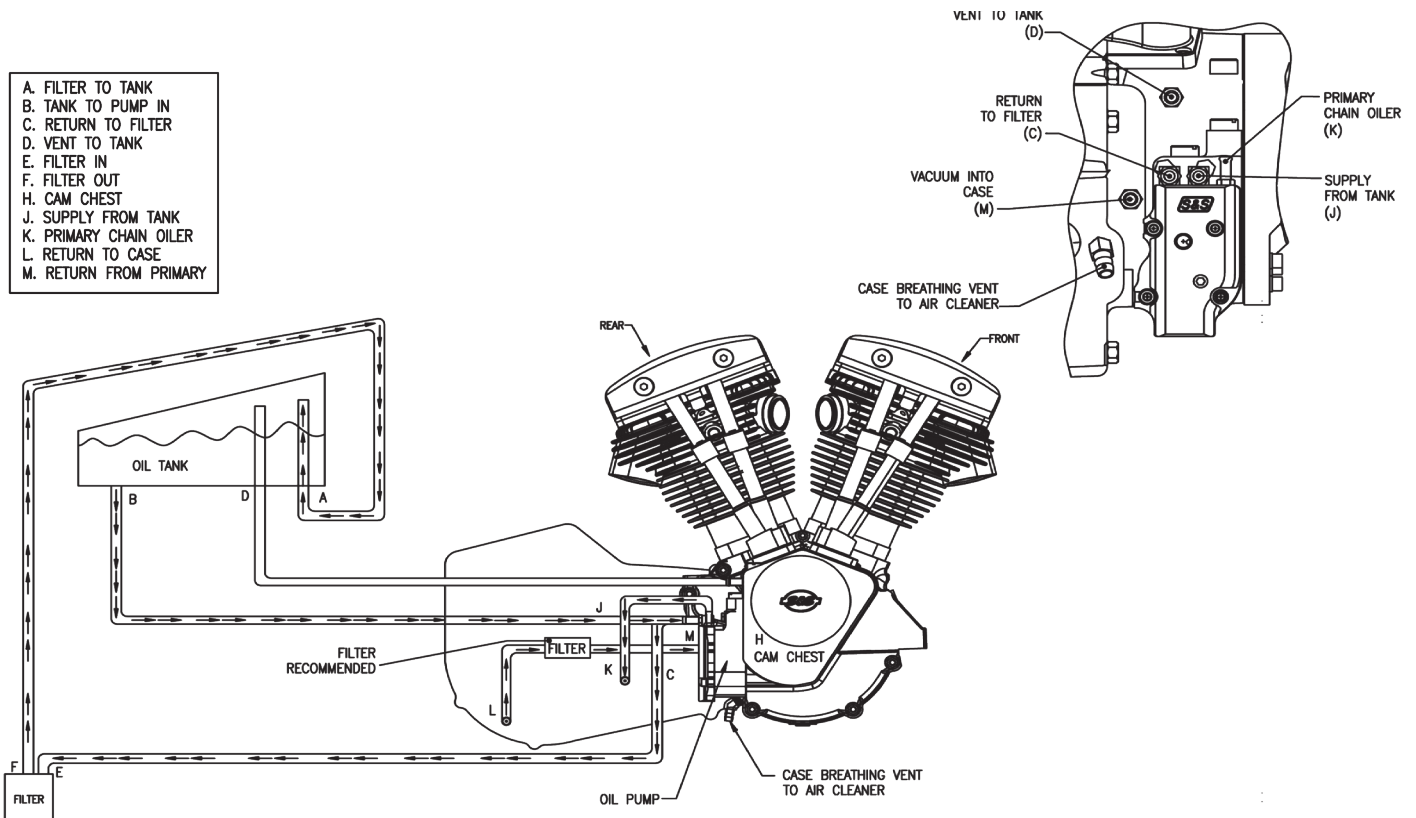

Figure 1
Most big twin oiling systems utilize three oil circuits: supply, return, and breather/vent. 1965-1984 models often utilize a fourth circuit for primary chain oiling. See **Figure 1** below. Oil line hook up for 1985-'99 engines will be similar except that no primary chain oil supply or return will be present since these models had sealed primaries.
6. Breather or vent circuit equalizes pressure between oil tank and crankcase. See preceding paragraph for location of vent fitting in oil tank. Vent line runs from vent fitting on oil tank to Hole D in crankcase. See **Figure 1**, below.